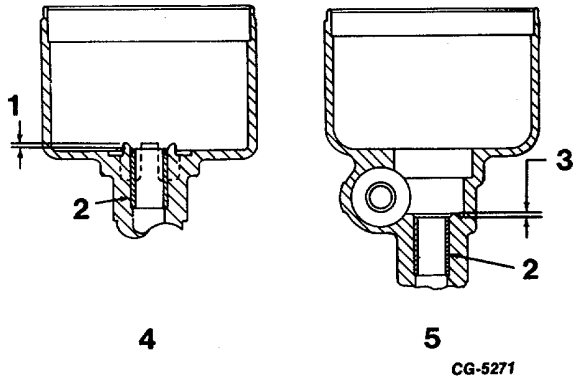

Fig. 25 Upper Bushing Location Dimensions
- Press upper bushing into housing to dimension shown in Figure 25.